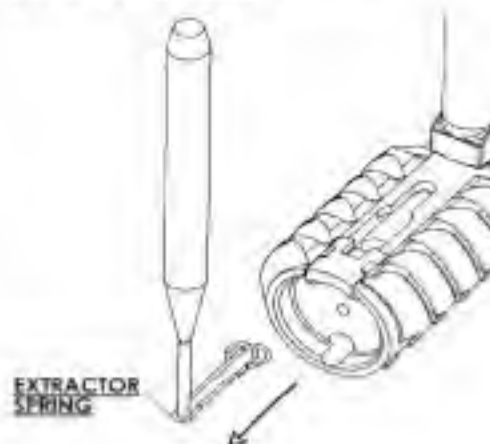

Figure 14.
2. Slide the extractor spring forward over the extractor until it is clear of the bolt recess. Remove the spring. (Figure 14.) Note that the end of the extractor spring is bent slightly toward the extractor.